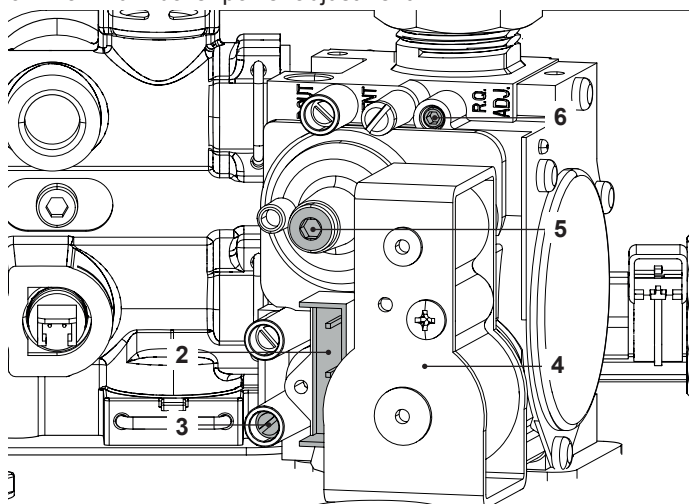
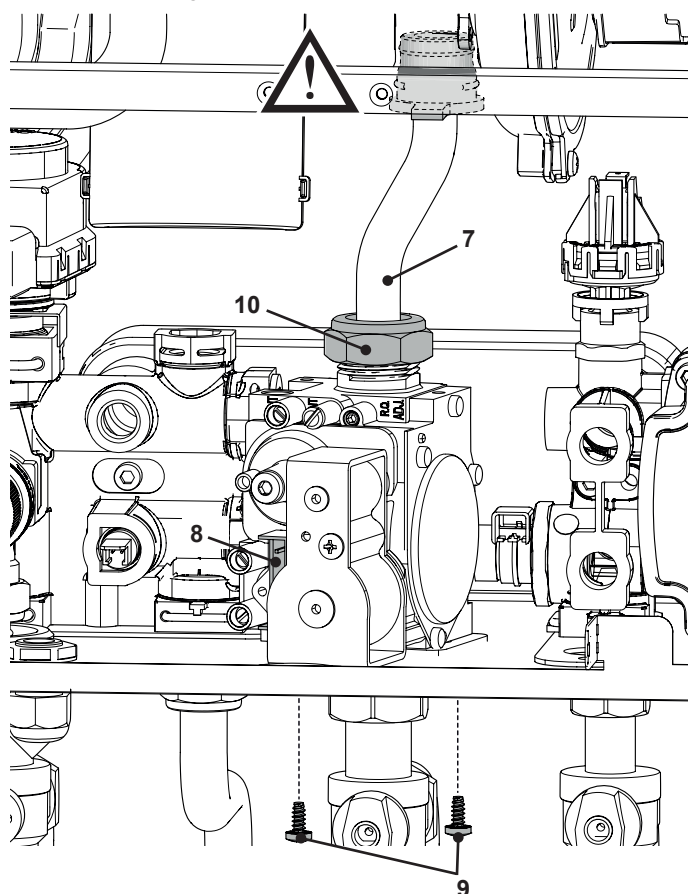

Figure 11.2
Figure 11.17
(Figure 11.2)
- 3 Loosen the internal screw on the Inlet Pressure Test Point "3" (Figure 11.2) of the Gas valve and connect a pressure gauge using a suitable hose.
- 7 Disconnect the pressure gauge and close the Inlet Pressure Test Point "3" (Figure 11.2).
22 To calibrate the boiler CO₂ (gas pressure at the burner) unscrew the protective brass cap “5” completely and turn the underlying Ø 4 mm hex head socket screw Figure 11.2. Turn it clockwise to increase the CO₂.
If the two values do not coincide, turn the RQ maximum adjustment screw (6 in Figure 11.2) for the gas valve and calibrate the CO₂ to the same value specified in the table above.
- 2 Disconnect the electrical connector "2" (Figure 11.2).
- 2 Disconnect the connector "8" (Figure 11.17), see also connector "2" (Figure 11.2).
- 4 Unscrew the connector "10" (Figure 11.17) and remove the pipe "7".
- 5 Unscrew the screws "9" and remove the valve (Figure 11.17).